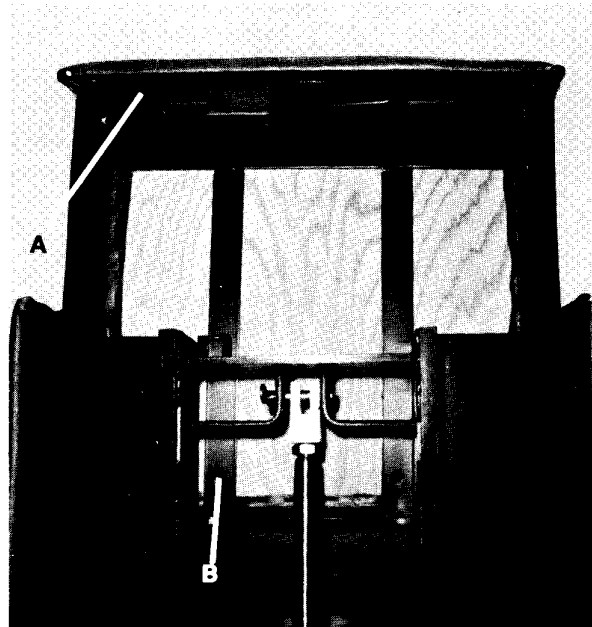

Fig. 8
- 2) Extend footrest and remove (2) screws, Item A, Fig. 8.
- 3) Return footrest to its storage position and remove (2) screws, Item B, Fig. 8.
- 5) Slide new footrest upholstered section into seat, align holes, and install (2) #10-24x $\frac{3}{8}$ " screws, Item B, Fig. 8.
- 6) Extend footrest and install (2) #10-24x $\frac{5}{8}$ " screws, Item A, Fig. 8.